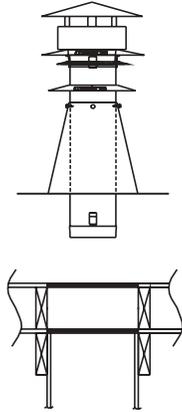

Fig. 20
**On Top Flat Roof (Fig. 20)- For Enclosed Systems Not Requiring a Thimble**
Apply weather-stripping or outdoor caulk to the bottom of the cone plate. Attach the cone to the roof using common construction methods. Flash over the cone plate and seal the fastener heads using normal roofing requirements. When the vent pipe is in place through the Tall Cone, attach the Tall Cone storm collar around the pipe and position at least 2" above the top edge of the cone (figure 1). This 2" air space will release any built up heat from inside the cone. Apply RTV sealant around the top of the storm collar and the pipe. Install the Rain Cap on the last section of vent per the Rain Cap installation instructions. Position the Rain Cap Storm Collar 2" above the Ventilation Collar as shown in Fig. 20.